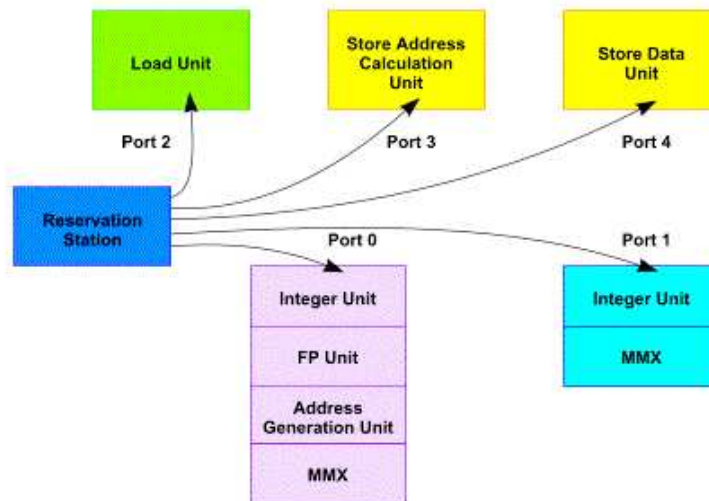

Figure 6.2: The five execution units (from [6]).
Pentium III uses the Intel P6 core, which features an out-of-order execution unit. A window is opened on all instructions that are not yet executed, which allows the execute phase of the processor to get a better overview of the stream of instructions. This gives it a better ability to schedule the execution of the instructions optimally. The P6 core breaks the x86 instructions into simpler instructions, called micro-ops. This task is performed by three parallel decoders. When the micro-ops are decoded they are sent to the Reservation Stations (RS). There they will wait until their data operands are available, and are then sent to an execution unit. The P6 core has five execution units, designed to execute different sets of instructions. Two handles ALU, MMX and SSE instructions. One handles Load, one Store Address and one Store Data instructions (see Figure 6.2). When a micro-op has been executed it is returned to the Reorder Buffer, where it will wait for retirement. In this stage data is written back to the memory, and the micro-ops will then retire in-order [6].